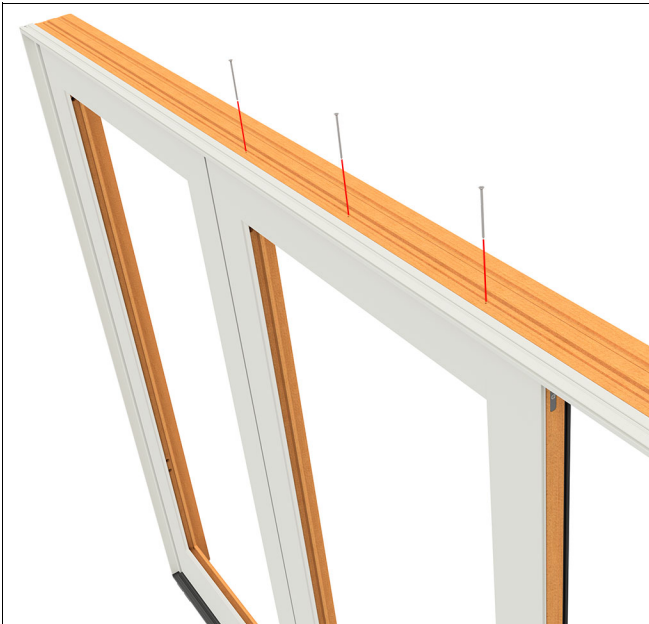

**Figure 61**
**14.** Install the sill to panel bracket. Slide the bracket under the sill bracket (attached to the sill). Then fasten to the stationary panel through the top screw hole with #8 x 3" screws. Bend the panel strap up and fasten using the bottom screw on the sill bracket. See Figure 61.